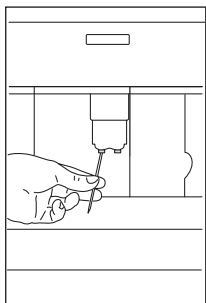

Fig. 34
- ▶ Check regularly that the holes in the coffee spout are not blocked. If necessary, remove coffee deposits with a toothpick (Fig. 34).